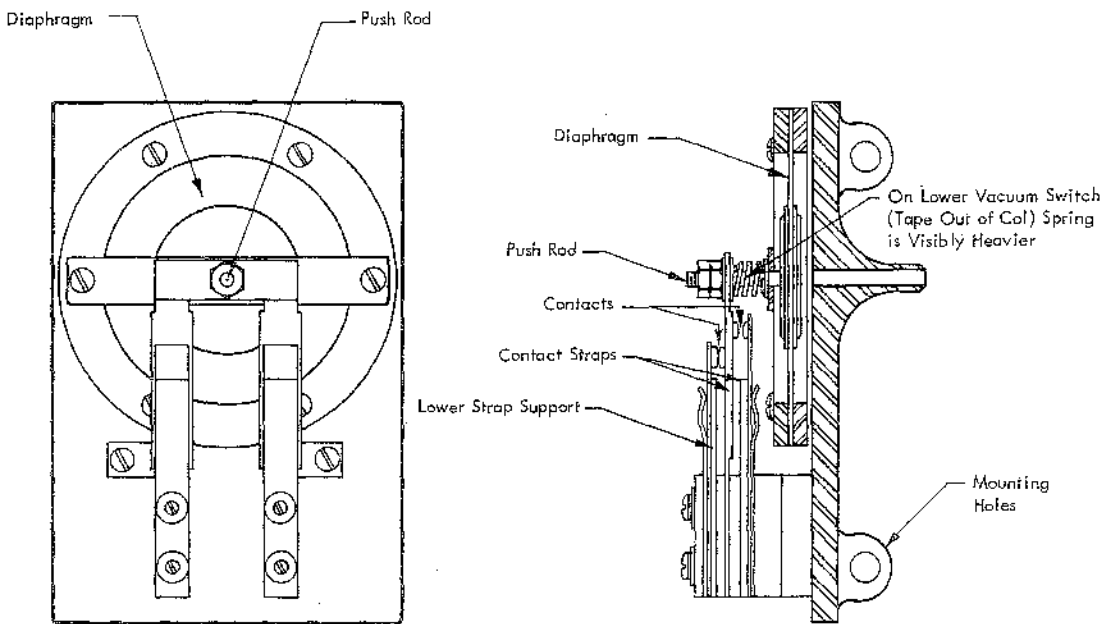

Figure 3-16. Vacuum Column Switch
Push Rod. The vacuum switch push rod should have $\frac{1}{64}$ -inch clearance between the adjusting nuts and the switch transferring contact strap. Position the adjusting nuts as required to attain this condition. See Figure 3-16.
3.3.2 Vacuum Column Switches (Figure 3-16)